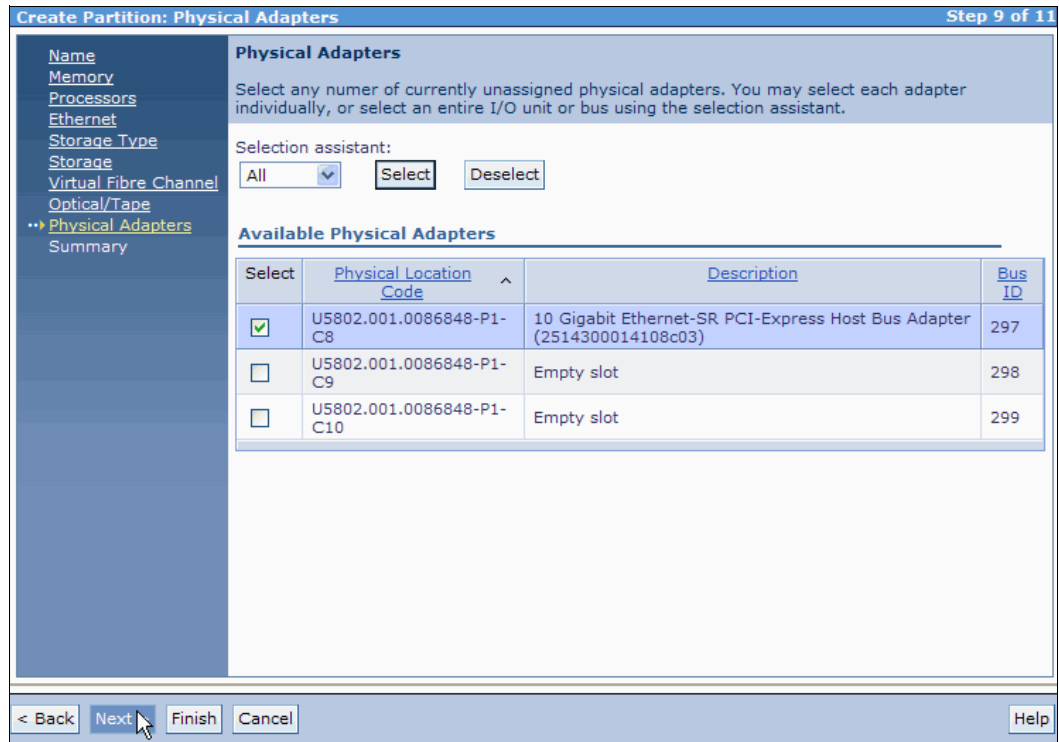

Figure 4-46 Create Partition: Physical Adapters
11. Select the needed physical adapters as shown in Figure 4-46. Click **Next**.